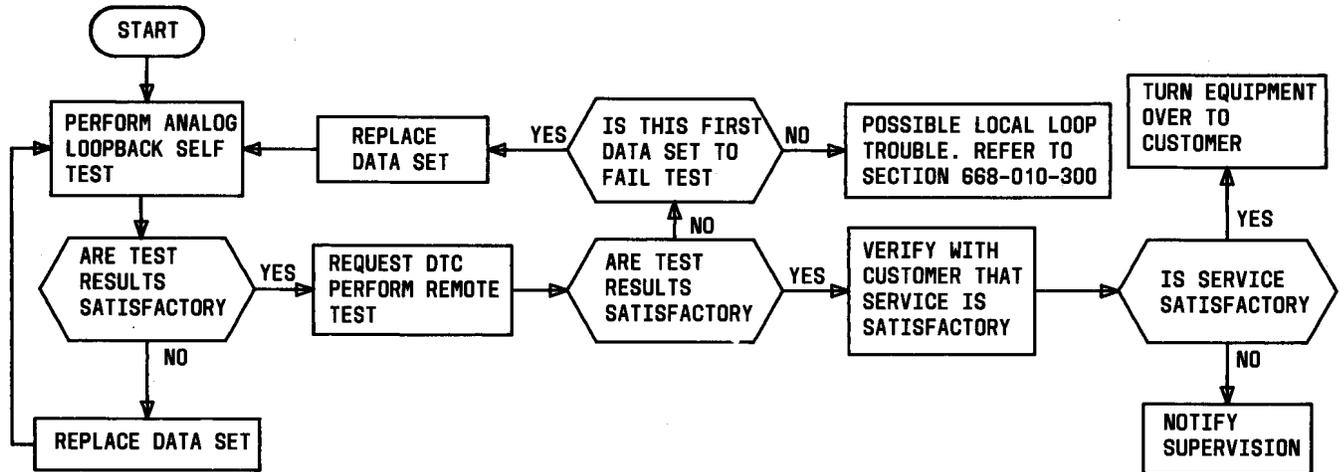

Fig. 2—Installation Test Sequence
2.02 Before proceeding with the tests, verify that the local loop meets the requirements specified in Section 314-205-501. Refer to Fig. 2 for the installation test sequence.